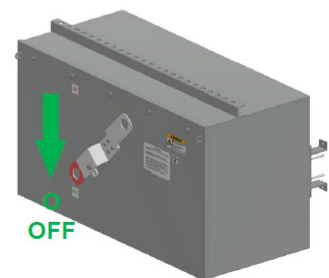

Figure 45. Turn-off
- Turn-off position. (Figure 45)